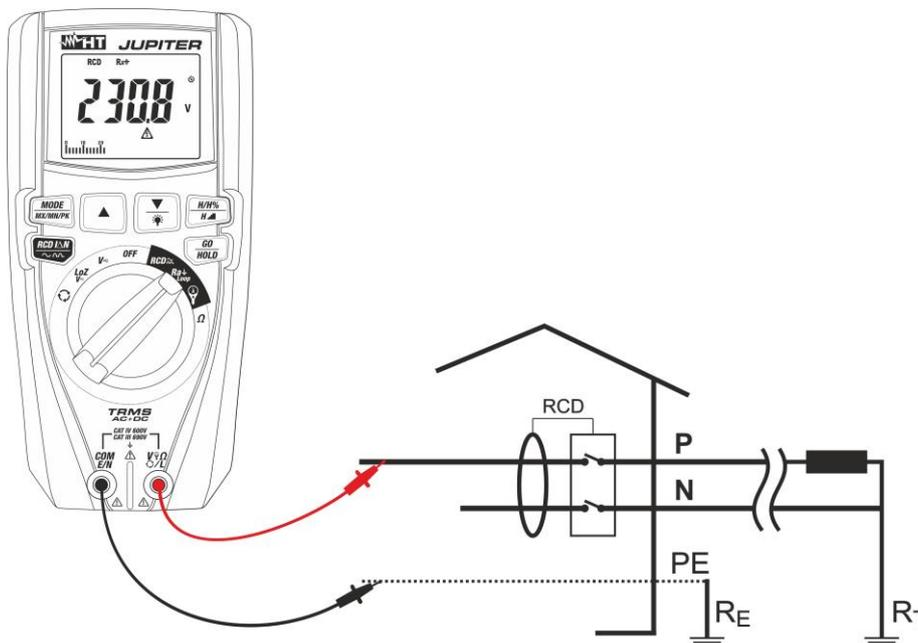

Fig. 18: Use of the instrument for measuring overall earth resistance with leads
6. In case measuring leads are used, insert the red conductor into input terminal **V Ω L** and the black conductor into input terminal **COM/E/N** and connect the instrument to the system to be tested (see Fig. 18). The value of voltage Phase-Earth is shown on the display